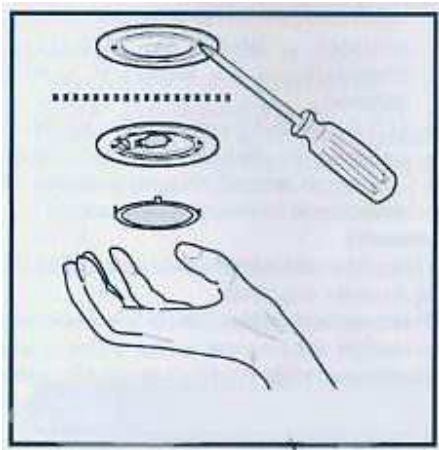

Fig. 15
- The light is designed for use during cooking and not for prolonged lighting of the environment. Prolonged use of the light notably reduces the duration of the bulb. Use a one-edged screwdriver or any other appropriate tool to lift and remove the overhead light fixture. Replace the damaged lamp. Use only halogen lamps with the original specification, taking care to avoid direct contact with hands. Return the light fixture to its position (snap fastening) (Fig.15).